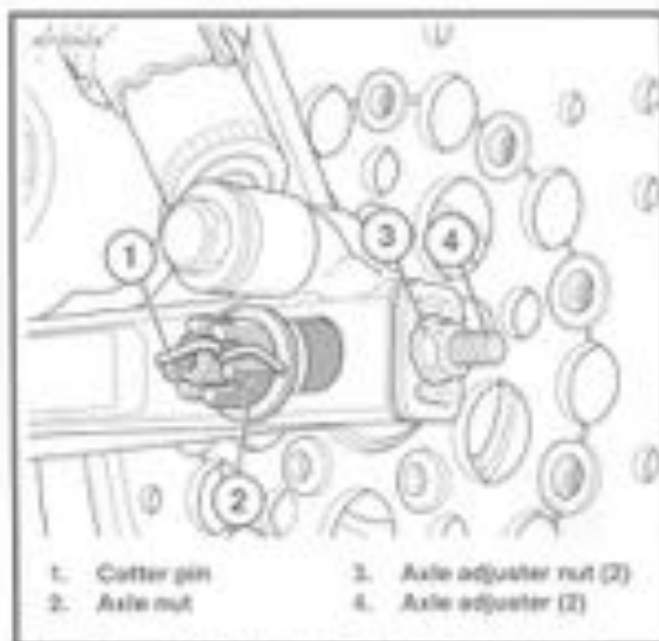

Figure 6-8. Secondary Drive Belt Adjustment
7. See Figure 6-8. Remove cotter pin (1) and loosen rear axle nut (2). Decrease belt tension by turning the side adjuster nut (3) on each side of rear fork an equal number of turns counterclockwise.